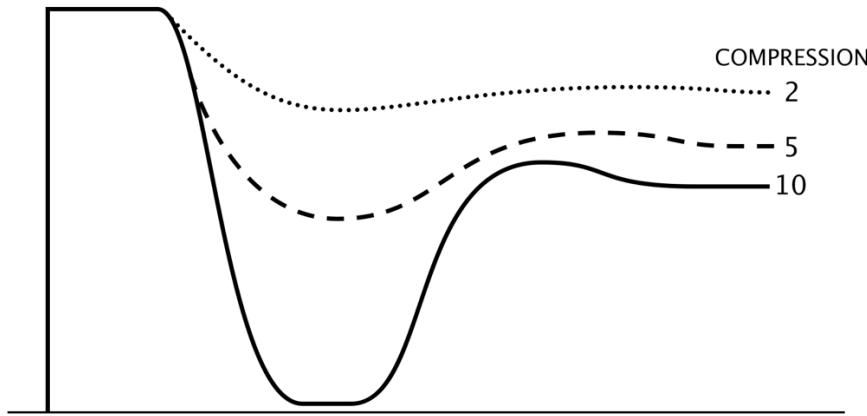

FIGURE 5: COMPRESSION ENVELOPE VS. COMPRESSION LEVEL
**COMPRESSION CONTROL:** Comes after the Threshold and basically acts as a volume knob for the control signal. It's equivalent to the ratio control on a traditional compressor. It affects the depth of the Contour volume drop as well as the following compressed signal level. It does not affect the timing in any significant way. A high threshold combined with high compression will produce the most extreme Contour response. Figure 5 shows the resulting Contour volume envelope for 3 different Compression settings.